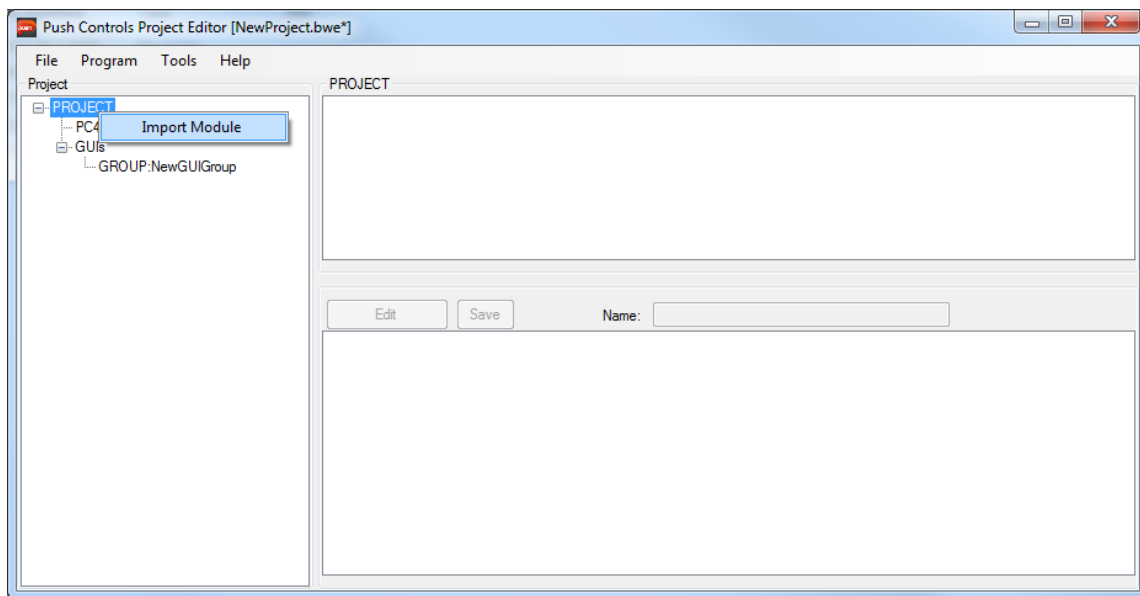

Figure 6 – Right click on PROJECT, inside the project tree, to import a module.
- Right click on 'PROJECT' at the top of the tree and select 'Import Module'. *Refer to Figure 6*